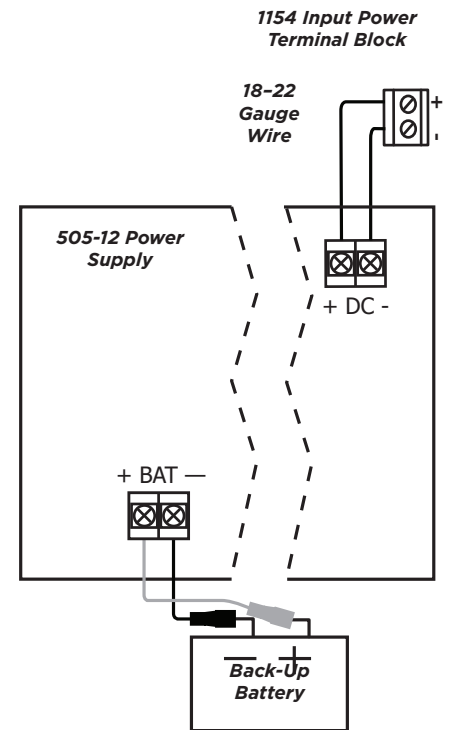

Figure 5: External 12 VDC Power Supply
2. Observing the polarity of all wired connections, use 18-22 gauge wire to connect the 1154's input power terminal block to the **+ DC -** terminal on the 505-12 power supply. See Figure 5.